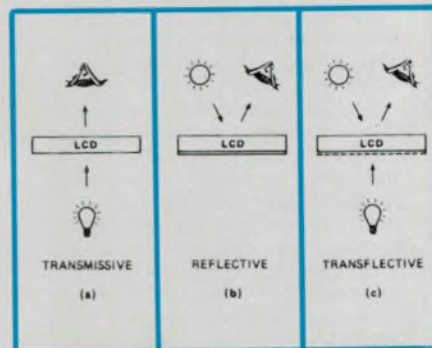

Fig.5: The three LCD illumination modes:
best suited to applications where there is always sufficient ambient light. Reflective mode is especially suited to battery operated displays as no lighting power is required. See Fig.5(b).
- **Transmissive mode** – where the display is lit from behind. Negative image displays are best suited to this mode. Their appearance is similar to active displays such as Light Emitting Diodes (LEDs), Vacuum Fluorescent Displays (VFDs) etc. This type of display can also be projected like a slide (Fig.5(a)).
reflector (transflector) which reflects ambient light as well as transmitting diffused back-lighting for night use (Fig.5(c)).